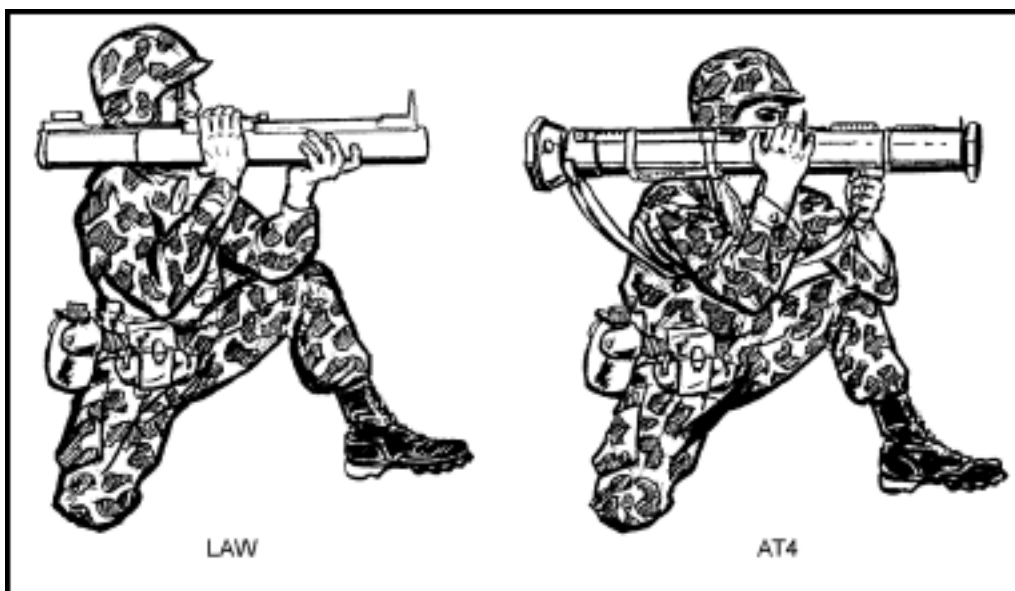

Figure 5-5. Modified kneeling positions.
b. **Modified Kneeling Position.** From the basic kneeling position, sit back on your right heel. Place the back of your upper left arm on your left knee, making sure you do not have bone-to-bone contact between your left elbow and left knee. Keep your right elbow tucked in close to your right side. Use any protective barriers available. Figure 5-5 shows the modified kneeling positions for the LAW and AT4.